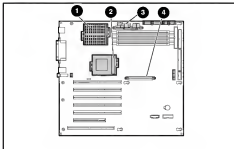

Figure 3-28. Locating the processor sockets and Processor Power Module (PPM) slots
3. Locate the processors and PPMs as shown in Figure 3-28 and Table 3-3.